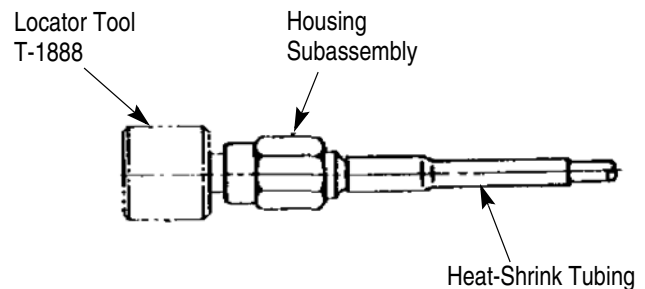

Figure 6
2.4. Shrink Heat-Shrink Tubing to the Cable (Figure 6)
1. Position the heat-shrink tubing over the ferrule as shown in Figure 6.